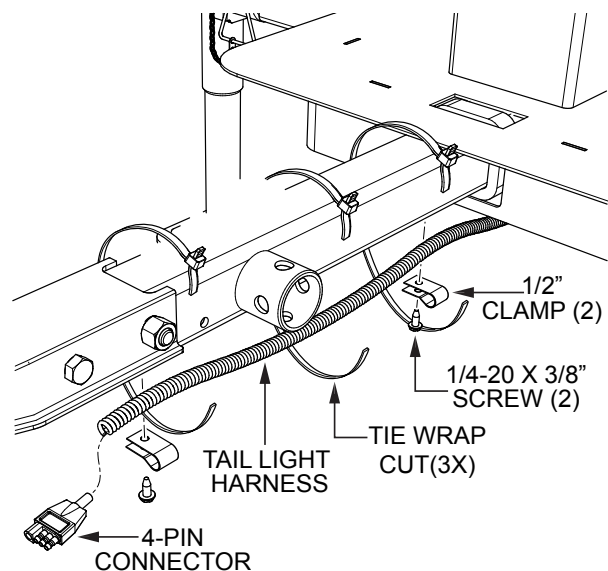

Figure 6. Tail Light Harness
3. On the underside of the tow bar, remove the two 1/2" clamps that secure the tail light harness to the tow bar (Figure 6).